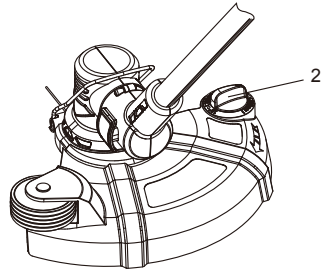
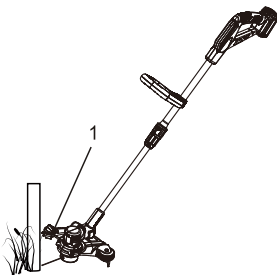

Fig. 12
Fig. 20
1. Press the switch knob (1) down to rotate line trimming knife 180° (Fig.12) and release the knob.
To protect the trimmer line from damaging a post, deck etc., lower the trimming guide (1) and configure the trimmer (Fig. 20). See Fig. 10 for instructions on lowering the trimming guide. If the trimmer line is too long and contacts the post or deck, rotate the line limiting knife as outlined in Fig. 12 so it will cut the line to a shorter length and avoid damaging the object.